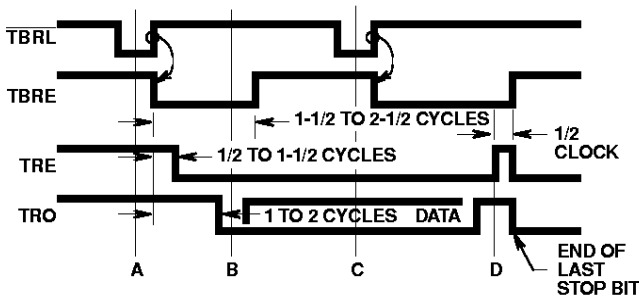

FIGURE 3. TRANSMITTER TIMING WAVEFORMS
Transmitter timing is shown in Figure 3. (A) Data is loaded into the transmitter buffer register from the inputs TBR1 through TBR8 by a logic low on the \overline{TBRL} input. Valid data must be present at least t_{DT} prior to, and t_{TD} following, the rising edge of \overline{TBRL} . If words less than 8-bits are used, only the least significant bits are used. The character is right justified into the least significant bit, TBR1. (B) The rising edge of \overline{TBRL} clears \overline{TBRE} . 1/2 to 1 1/2 cycles later, depending on when the \overline{TBRL} pulse occurs with respect to TRC, data is transferred to the transmitter register and \overline{TRE} is cleared. \overline{TBRE} is set to a logic High one cycle after that.